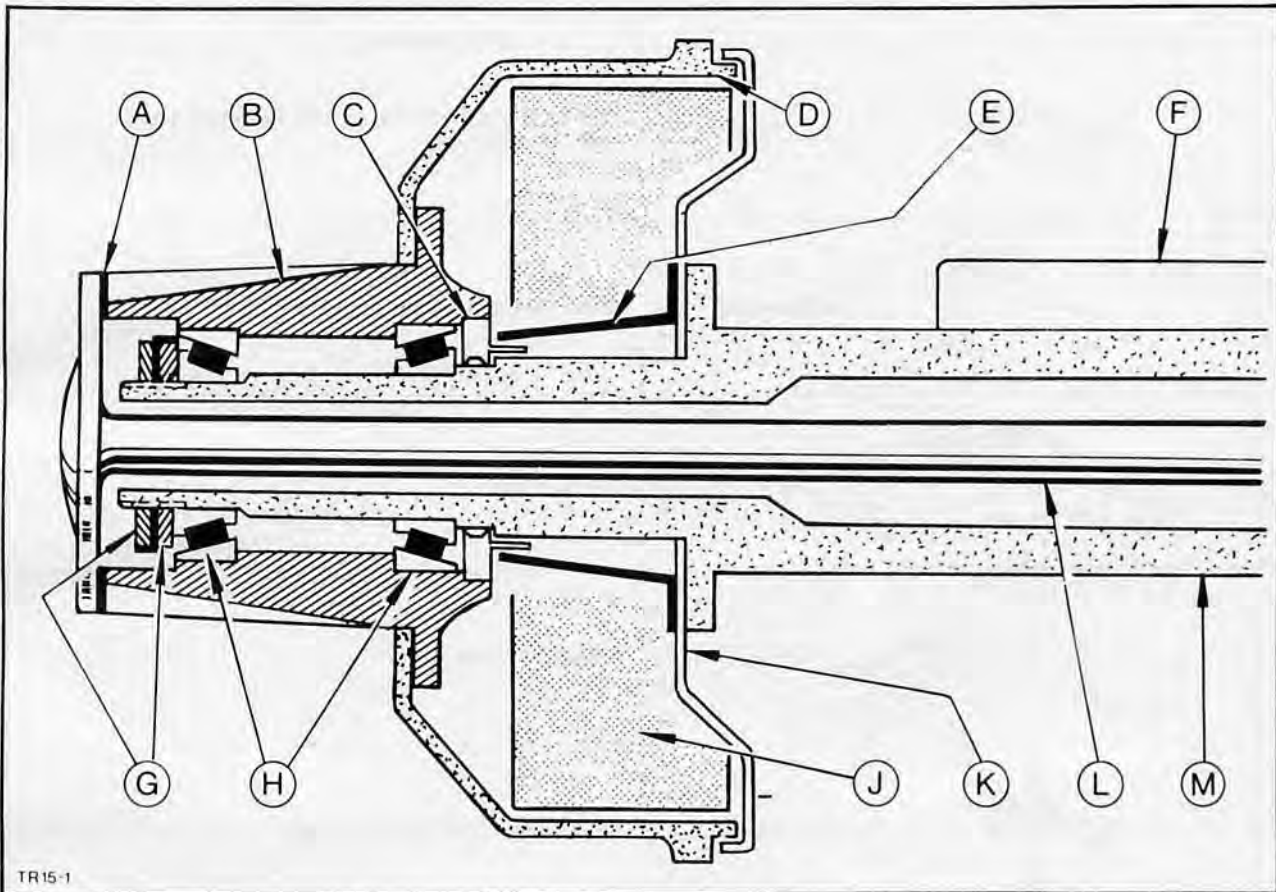

Fig. 8. Wheel-hub - 'G' axle
- On the 'G' axle the wheel-hub is mounted on the axle tube with two taper roller bearings. These taper roller bearings are lubricated by the rear axle oil. The axle-tube/hub sealing is effected by an oil seal located in front of the inner bearing. Another seal is located between the half-shaft flange and the wheel-hub. Here the bearing play is set with locknuts, Fig. 8.